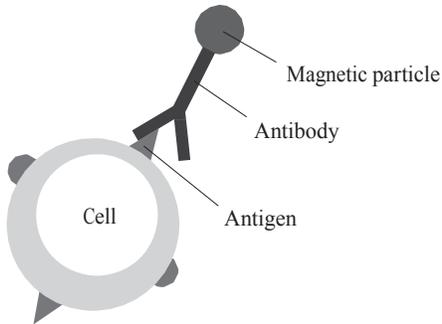

Fig 3.7: Magnetic labeling of cells.
- Directly in a one-way labeling procedure by antigen-specific antibodies conjugated to super-paramagnetic iron-dextran beads (see Fig. 3.7).